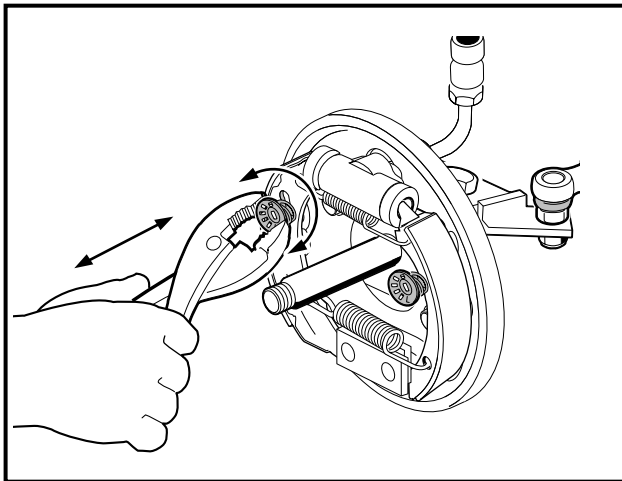

Figure 6-4 Rotate Front Spring Cups
2. Use pliers or a brake tool to rotate the cup washer and compression spring assembly 90° and remove the cup and spring from each brake shoe (**Figure 6-4, Page 6-9**). **See following NOTE.**
2. Compress the spring with the cup washer (12) onto the pin of the adjuster assembly (3) (**Figure 6-1, Page 6-2**) and rotate 90° to secure the brake shoe (**Figure 6-4, Page 6-9**).
5. Compress the remaining spring and cup washer (12) onto the pin of the adjuster (3) (**Figure 6-1, Page 6-2**) and rotate 90° to secure the brake shoe (**Figure 6-4, Page 6-9**).
5. Compress the remaining spring and cup washer (12) onto the pin of the adjuster (3) (**Figure 6-19, Page 6-21**) and rotate 90° to secure the brake shoe (**Figure 6-4, Page 6-9**).